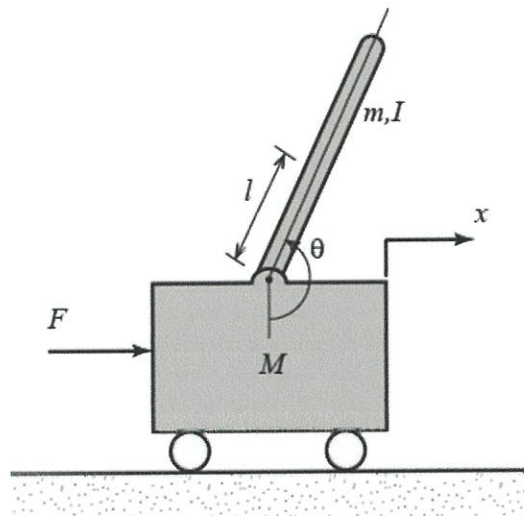

Figure Q3
- Q3** A two-dimensional pendulum is constrained to move in the vertical plane as shown in **Figure Q3** For this system, the control input is the force F that moves the cart horizontally and the outputs are the angular position of the pendulum, θ .